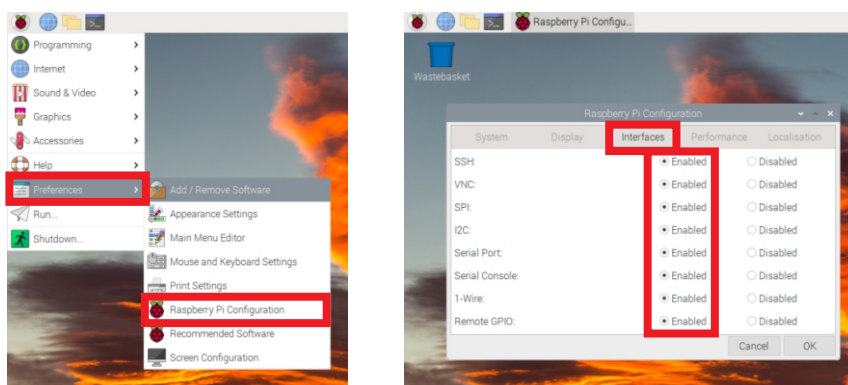

Figure 9: Enable Interfaces through Raspberry Pi Configuration
1. According to the Figure 9 open Raspberry Pi Configuration window following **Applications Menu > Preference > Raspberry Pi Configuration**.